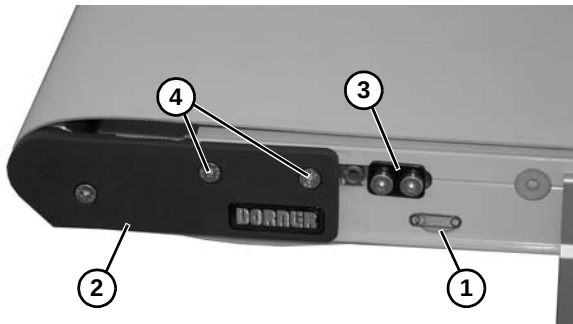

Figure 59
1. On tension end of the conveyor, identified with a  label (**Figure 59, item 1**), push in head plate assembly (**Figure 59, item 2**): On both sides of conveyor, loosen and move cam tracking assemblies (**Figure 59, item 3**) (if equipped) away from head plates, then loosen fastening screws (**Figure 59, item 4**) and push head plate assembly inward.